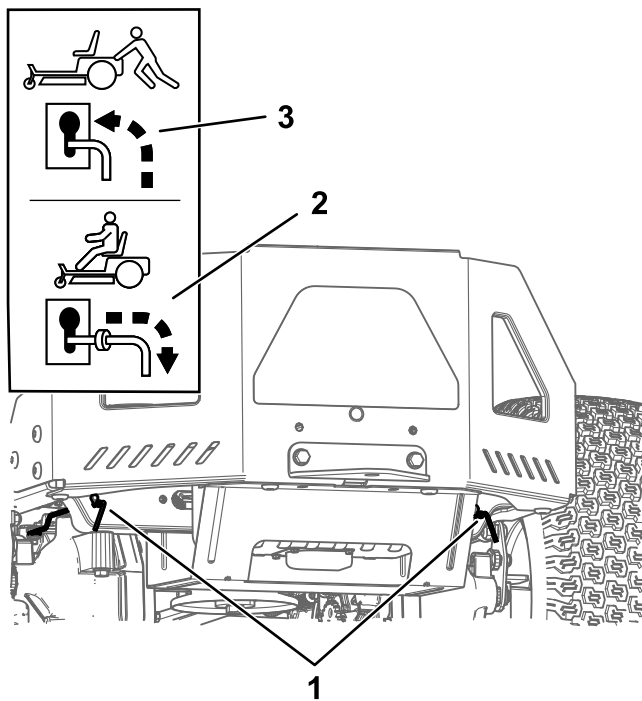

Figure 32
4. Move both bypass levers forward through the slotted hole and down to lock them in place (Figure 32).